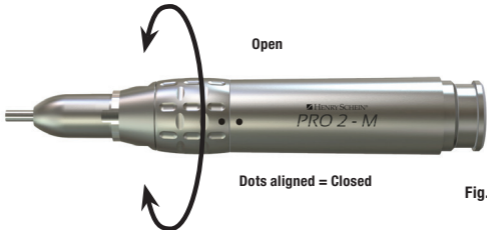

Fig. 2
Straight Attachment (Fig. 2)
3. Close chuck by returning bur locking ring to its original position until it clicks in place and the two dots line up (Fig. 2).